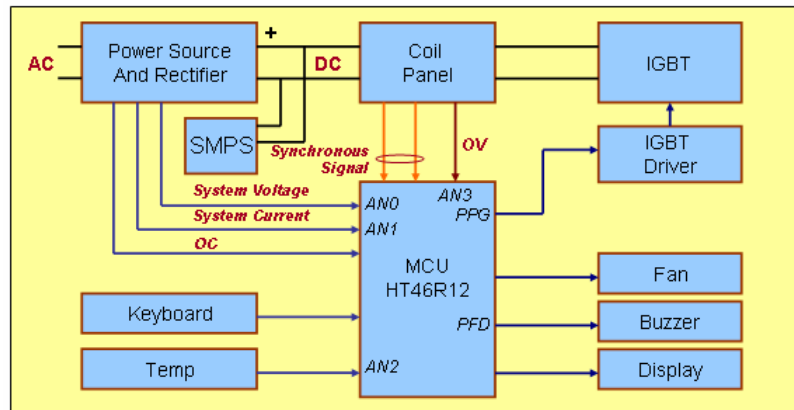

Fig.2
Fig.2 shows the overall induction cooker block diagram using the HT46R12 MCU. All the signals, such as over voltage (OV), over current (OC), system voltage, system current, synchronous signal, temperature and keyboard are all processed by the HT46R12. The outputs are also controlled by the HT46R12 MCU. The output power is controlled by the PPG output pulse width.